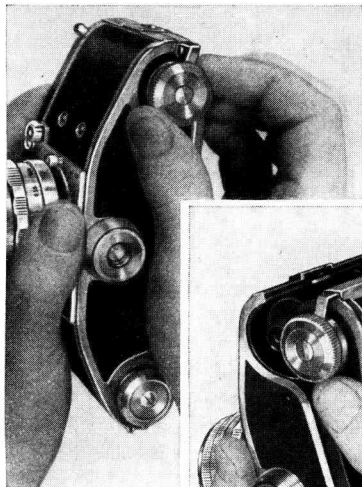
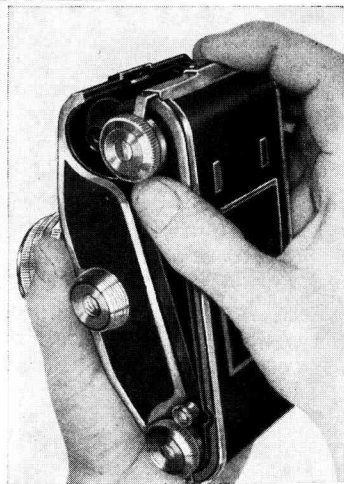

Fig. 4
Fig. 5
- 1 = button for opening camera-back (also see Fig. 4)
Hold the camera (Fig. 4) with your left hand. With the right pull out the button (1) and lock it in this position by short turn to the side. Pull away the hinged back cover (40) from the camera body with your right index on the camera back lock (2) (Fig. 5). The back cover (40) is attached to the body by a hinge. When loading the EXAKTA VX don't shift the opened cover towards your body, because, when doing so, the hinge may be damaged. When closing the back cover (40) take care that it engages correctly the groove in the camera body. Press the cover (40) slightly against the camera body. Turn the button (1) to the left or right, until it snaps into position. Thus the back cover is locked again safely.